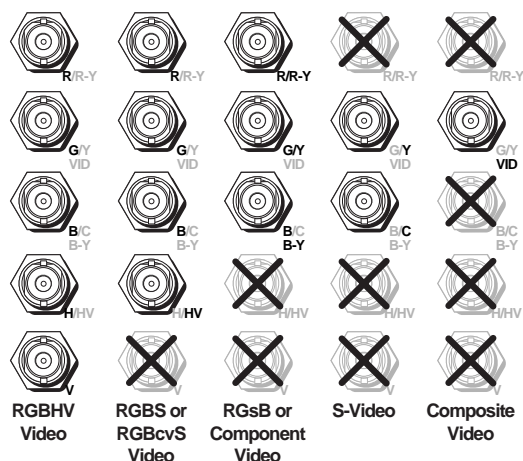

Figure 2-3 — Connections for various input video formats
- ① **AC power connector** — Plug a standard IEC power cord into this connector to connect the switcher to a 100 to 240 VAC, 50 Hz or 60 Hz power source.
- ② **Input video connectors** — Connect computer or RGB video, component video, S-video, or composite video sources to these female BNC connectors. Figure 2-3 shows how to connect the various video formats.